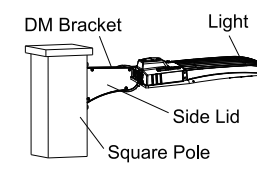

Figure 16
Step 2: Put the connected wire into the junction box, then cover the junction box. (Figure 16)